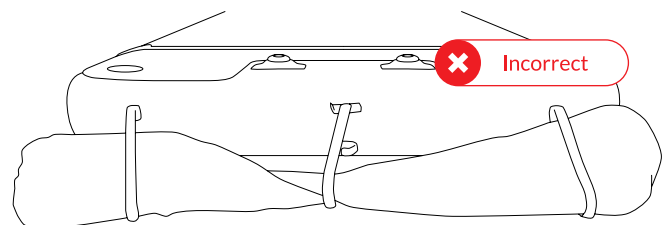
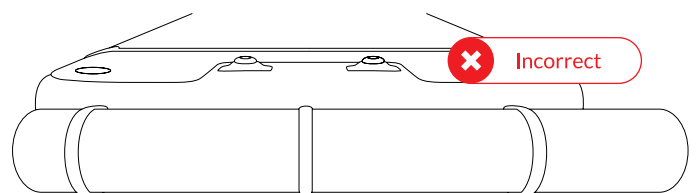
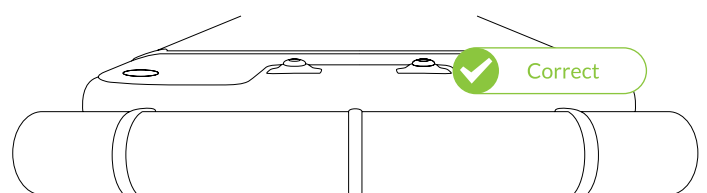

Fig 15 – Do not twist Air Toggle
Fig 17 – Position centrally, not like this
Fig 18 – Inflated Air Toggle
4. Also ensure that the actual Air Toggle isn't twisted (Fig 15) and is positioned centrally (Fig 18) rather than off centre (Fig 17).
7. Use the Stirrup pump provided to inflate the Air Toggle's (Fig 18). Never inflate with electric Bravo OV10 pump.